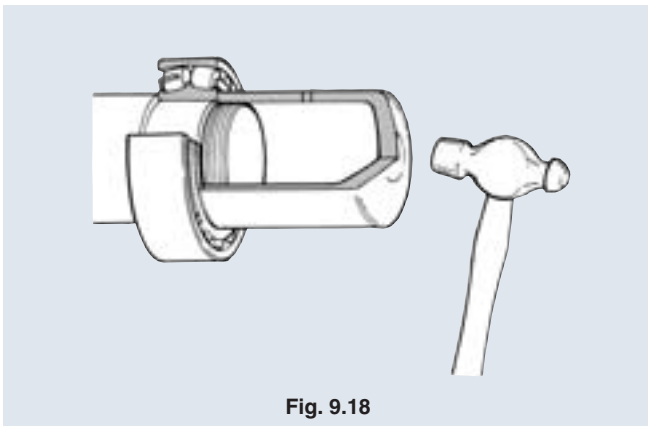

Fig. 9.18
(1) Press-fitting
- a. It is recommended that a small bearing of smaller tightening allowance be press-fitted by forcing a press-fitting jig onto the end face of inner ring. (See Fig. 9.18.)